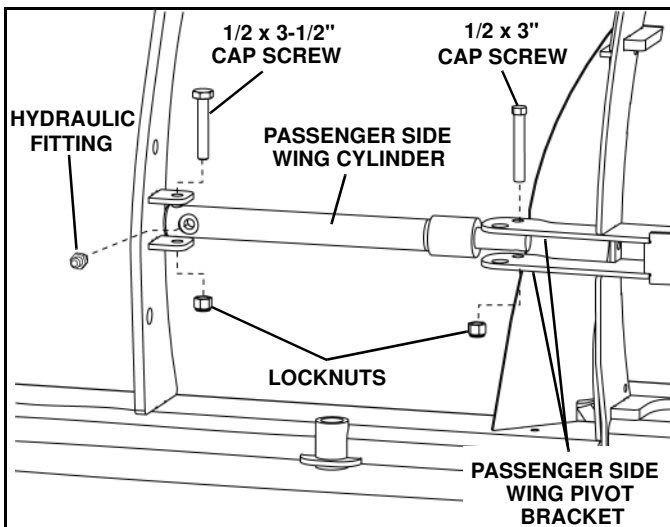

Figure 2-13
2. Position the base of one wing cylinder, with the hydraulic port facing the rear, on the passenger side of the blade. Install a 1/2" x 3-1/2" hex head cap screw and secure with a 1/2" locknut. (See Figure 2-13)